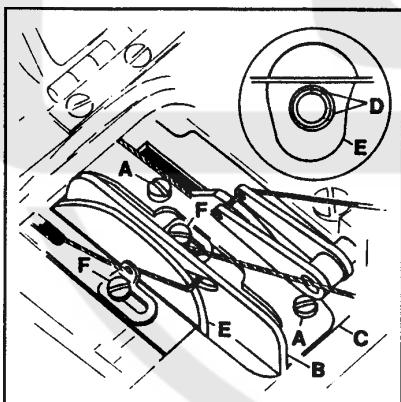

FIG. 34
Loosen screws (A, Fig. 34) and position looper thread cast-off (B) flush with the right end of cast-off support plate (C). Tighten screws (A). Loosen screws (D, Fig. 34 inset) and time take-up (E) so the thread will cast-off when the needle bar has descended $7/64"$ (2.8mm) from its highest position. When thread eyelets (F) are moved further to the left the amount of thread pull-off will increase.